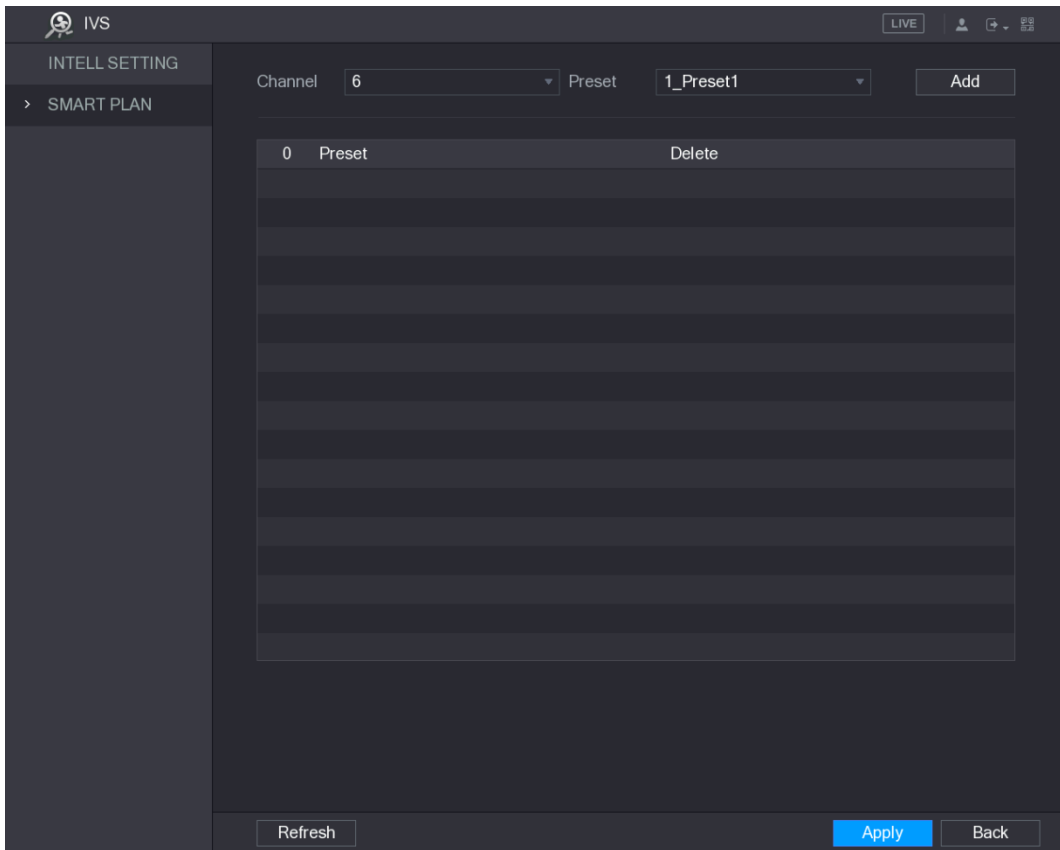

Figure 5-157
- For the IP camera with preset, see Figure 5-157.